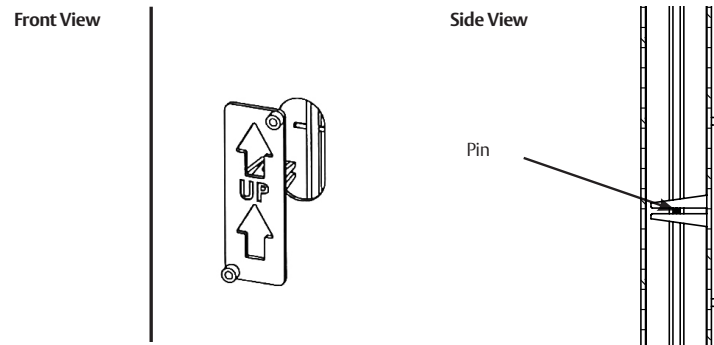

Figure 29
- Place the plastic field template on the pin in the top rod through the oval cut-out in the door. (Figure 29)